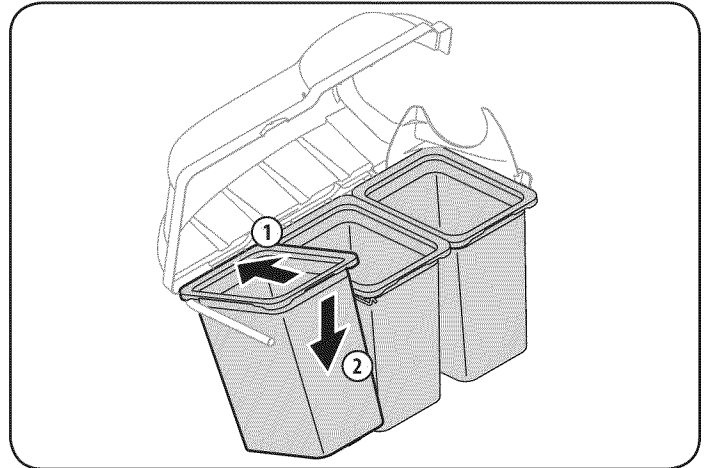

Figure 16
8. Install the grass bins onto the bin support assembly by inserting the front edge in first (1), as seen in Fig. 16, and setting the back edge down (2) until it fits into the assembly.